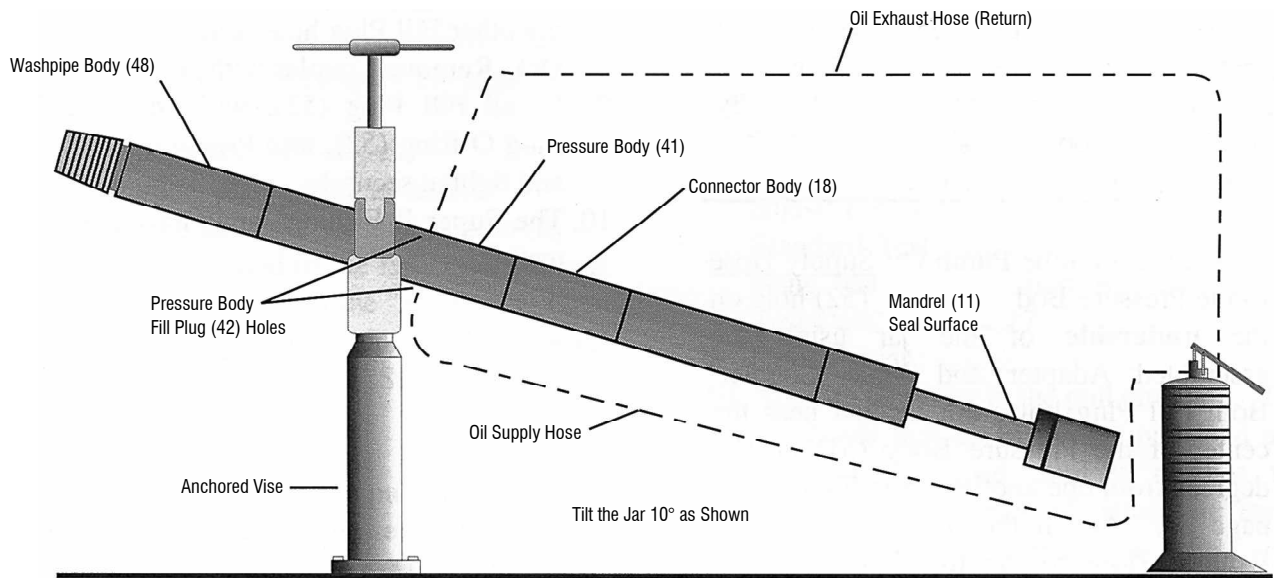

Figure 8
NOTE: The Jar is still in the open position fully extended with the Mandrel (11) seal surface exposed (See Figure 8, page 14) and is not to be closed until it is filled with Bowen Jar Lube. If the Mandrel (11) was moved, the Floater (44) may have moved from its proper position. This would require that the Washpipe Body (48) be removed, the Floater (44) position checked, and corrected if it has moved.
Position the Jar with one of the Pressure Body Fill Plug (42) holes at the top of the Jar's OD. This will allow maximum air removal during filling. (See Figure 8.)
1. Tilt the Jar at least 10° from horizontal with the Mandrel (11) end lower than the Washpipe Body (48) end. (See Figure 8.)
2. Attach the Volume Oil Supply Hose to the Pressure Body Fill Plug (42) hole on the **underside** of the Jar using the assembled Adapter and Male Coupler. Both Fill Plug holes are located near the center of the Pressure Body (41) at 180° from one another. (See Figure 8.) Attach the Volume Pump Oil Exhaust Hose to the **top** Fill Plug hole using the assembled adapter and male coupler. Required hardware is included in Service Kit (56).